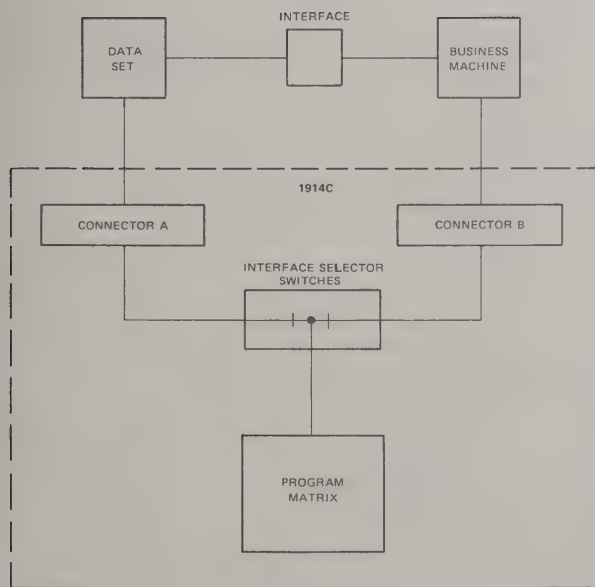

Figure 3-3. Arrangement for In-service Testing
**3.03** Figure 3-3 shows one arrangement for in-service testing. A business machine is connected to connector A and a data set to connector B. By closing both the A and B sections of an interface selector switch, the signal on that particular lead becomes available on a vertical bus of the program matrix in a bridging connection. Any lead between the business machine and the data set can be opened for testing signals at either the business machine or data set by opening or closing the A or B section of the appropriate selector switch.